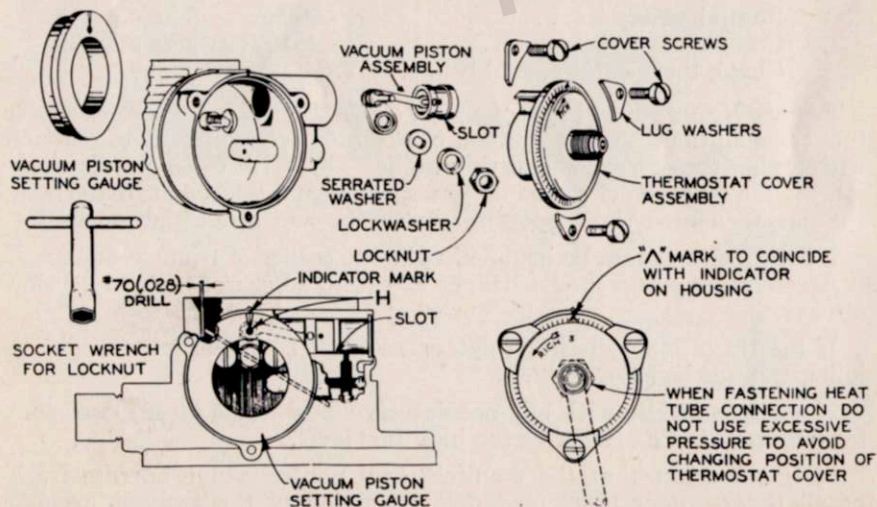

Fig. 15—If Choke Vacuum Piston is Removed it Must be Reset With a Special Gauge
1. Remove carburetor air cleaner and thermostat cover assembly Fig. 15 and test operation of choke valve. When closed by hand it should drop open freely without the slightest lag. If valve does not drop freely remove and clean the vacuum piston and cylinder with alcohol or acetone and do the same to choke valve shaft and bearings if necessary. Do not remove the vacuum piston unless the setting gauge Packard S. T. 5155 or Stromberg T-25046 is available. Clean all of the choke passages with compressed air.